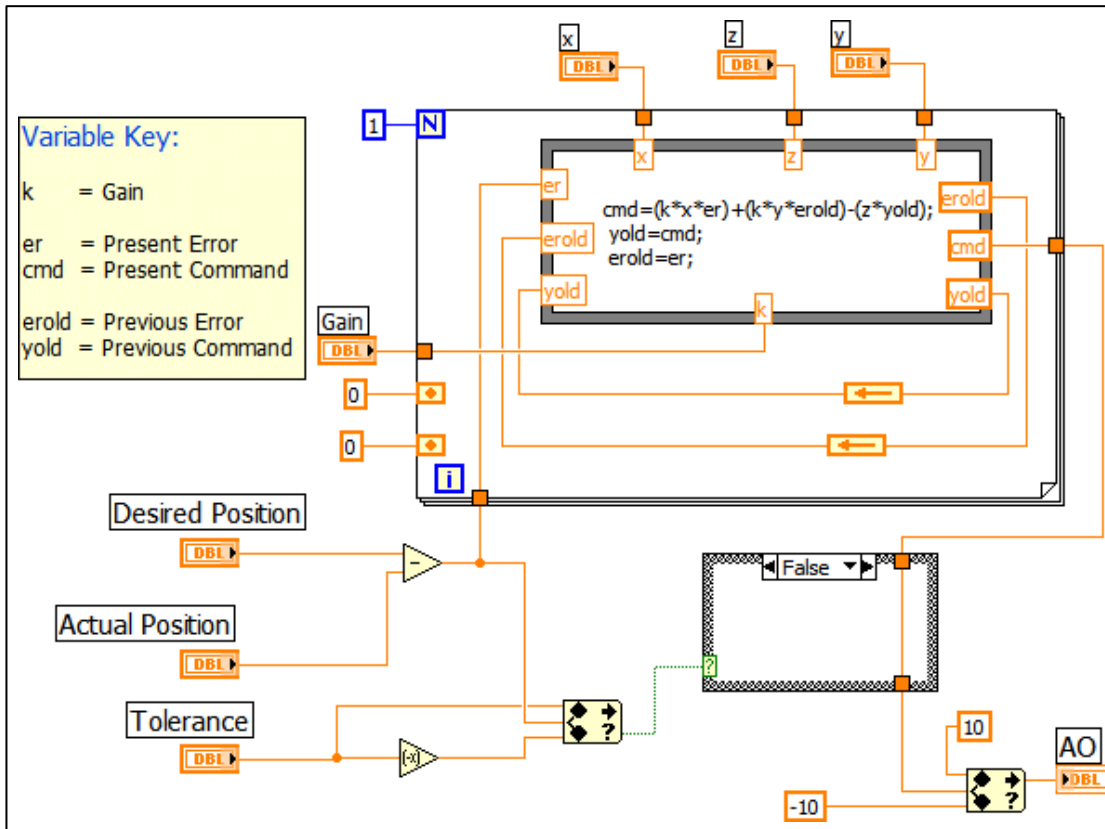

Fig. 6. Feedback VI when Cylinder Position is *not close* to Desired Position
- During closed loop control, the valve command is determined by the **Feedback** subroutine (VI). The valve command is found from the compensator’s **difference equation**.
- The valve command is a function of the **sample time** (T), the compensator **zero** and **pole** locations (a, b), the **current** and **previous position errors** (e_r, e_{rold}), and the **previous valve command** (y_{old}). The **current error** is calculated as the difference between the **desired** and **actual** positions (in inches).
- Once the position of the cylinder is within the **tolerance** of the desired position, the valve command is set to **zero**, keeping the system from trying to make **small corrections** to the position. **Figs 6** and **7** show the feedback block diagram when the system **is** and **is not** within the **tolerance** of the desired position.